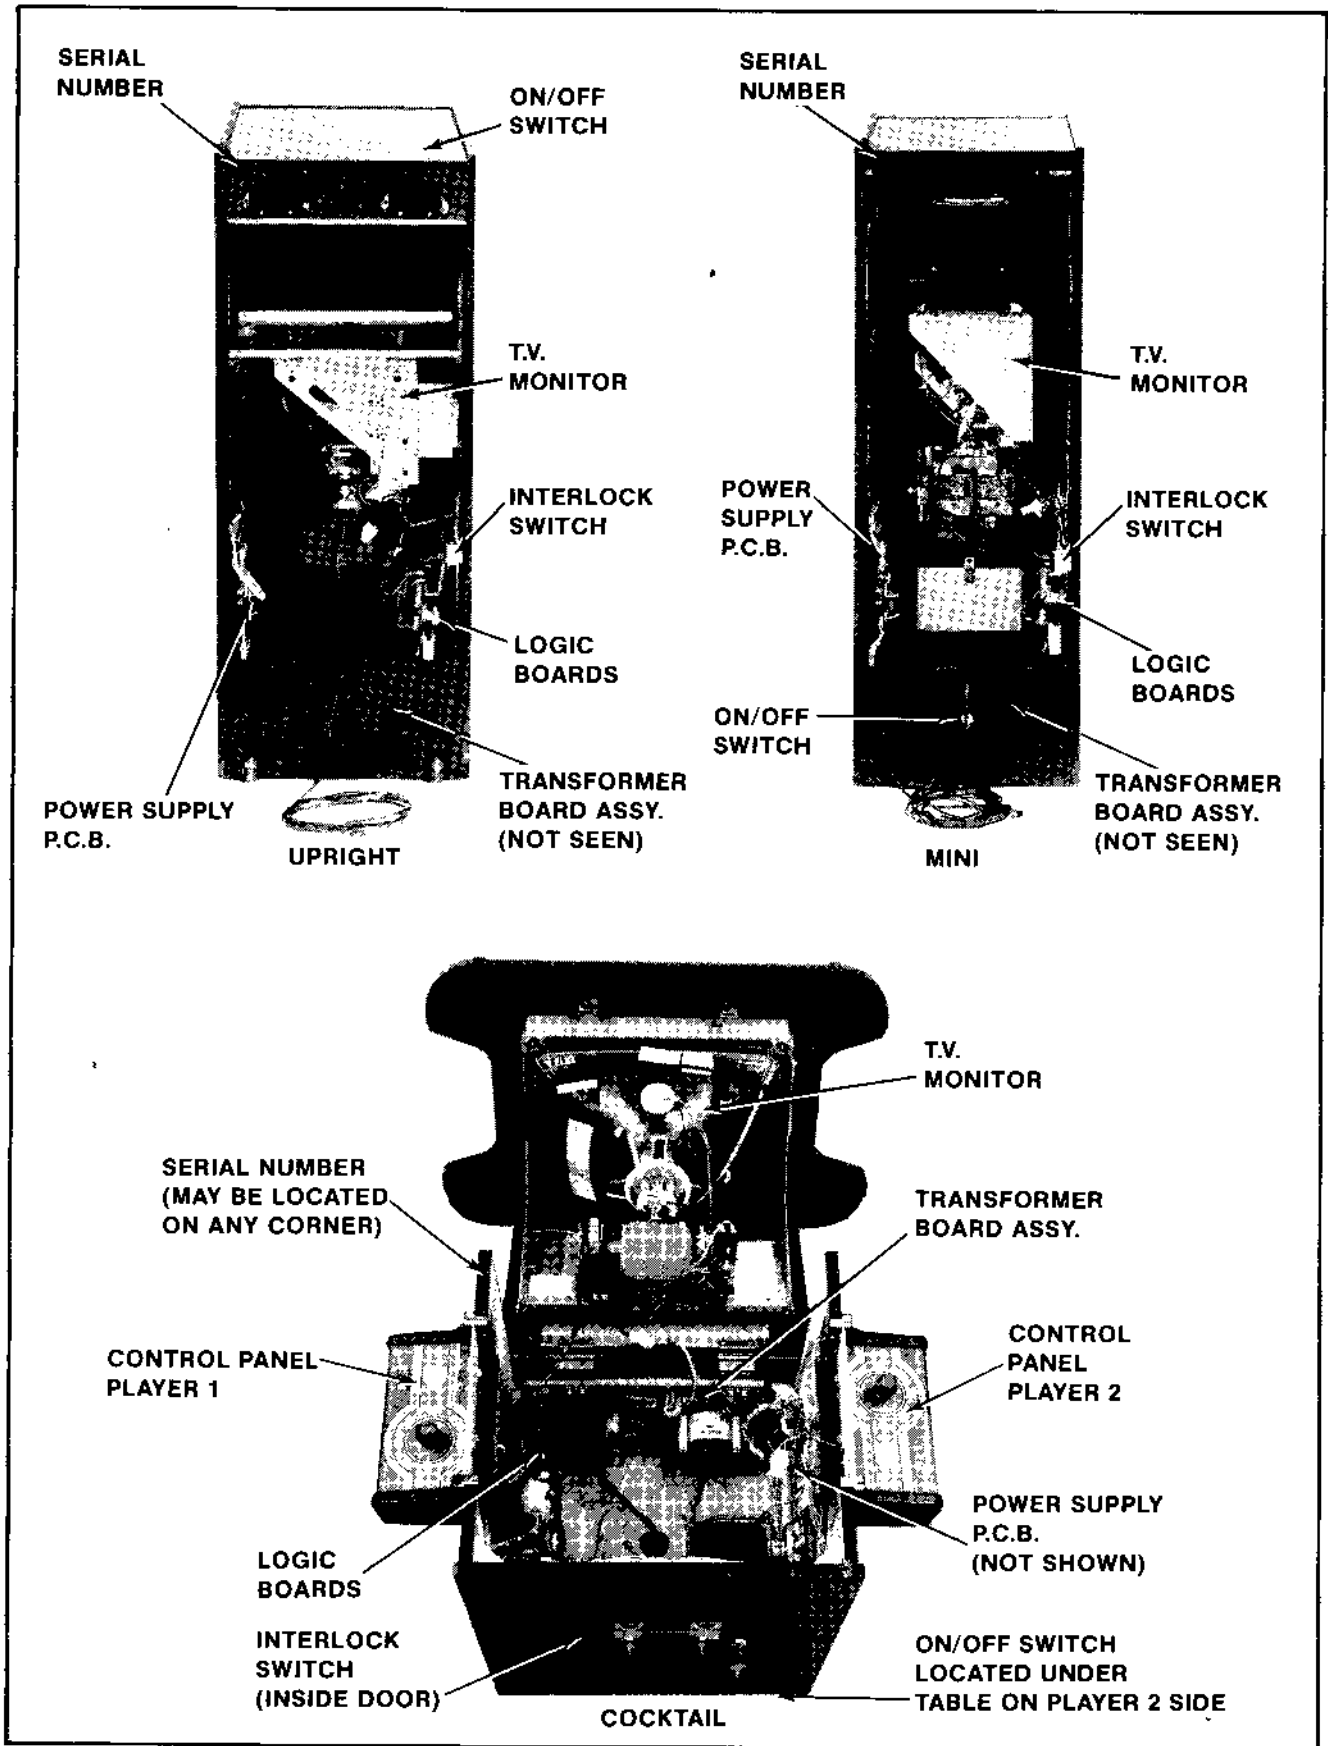

Figure 2-1 Location of Serial No., Interlock Switch, On/Off Switch, & Major Sub-Assemblies
2-2	Major Sub-Assemblies (Cont. from Fig. 2-1) 2-3
5. Open the cabinet and inspect the inside of the game for any signs of damage. See Figure 2-1.
- Note the location of the game's serial number. See Figure 2-1.
- Check all major subassemblies to be sure they are mounted securely. These are called out in Figures 2-1 & 2-2.
3. Interlock and power ON/OFF switches. See Figure 2-1.
The game ON/OFF switches for all models are located as shown in Figure 2-1. Turn the game on and allow it to warm up a few minutes.